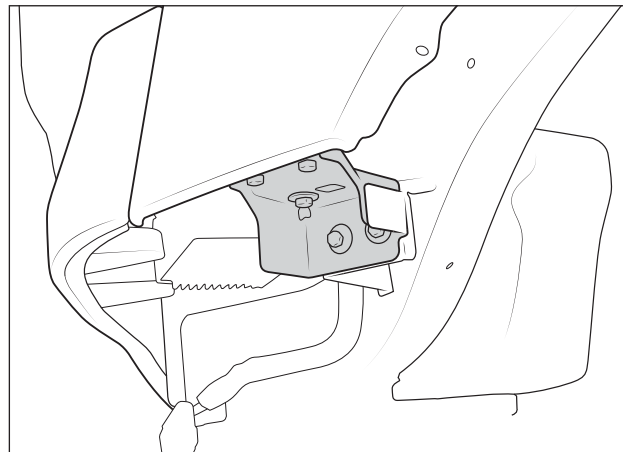

Figure 3
3. Remove headlamp brackets and SAVE factory hardware (fig. 3).